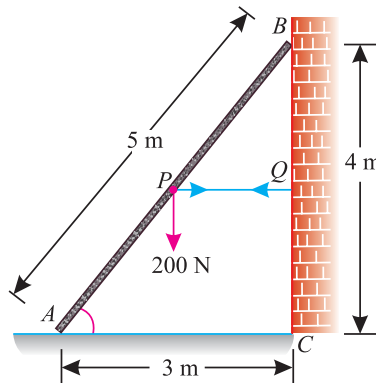

Fig. 16.17.
**Example 16.7.** A uniform ladder, 5 metres long and weighing 200 N, rests on a smooth floor at  $A$  and against a smooth wall at  $B$  as shown in Fig. 16.17.